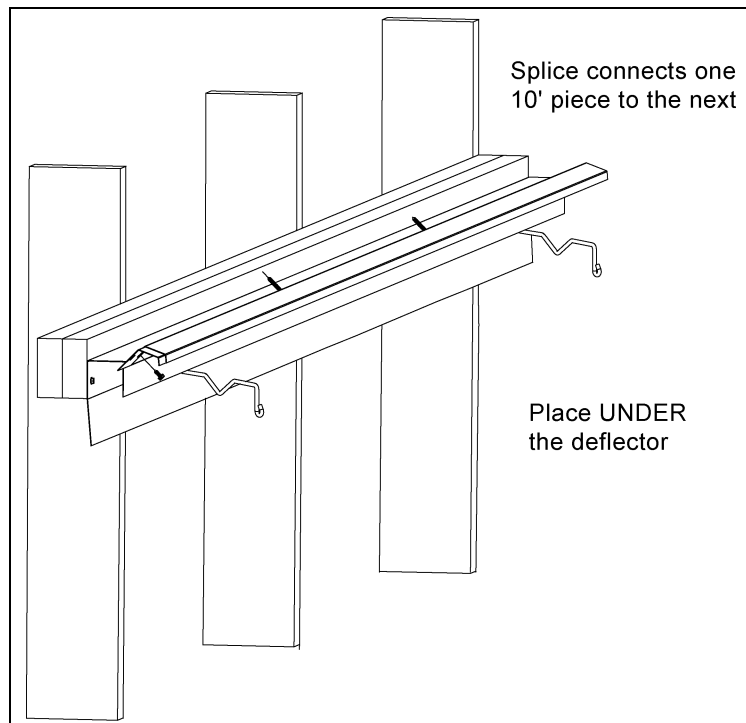

Figure 4N
Install a spray bar deflector splice under the spray bar deflector at each 10' joint. Use two (2) #10 x 1/2" stainless steel self-drilling screws (S-8445) at each splice. (See Figure 4N.)